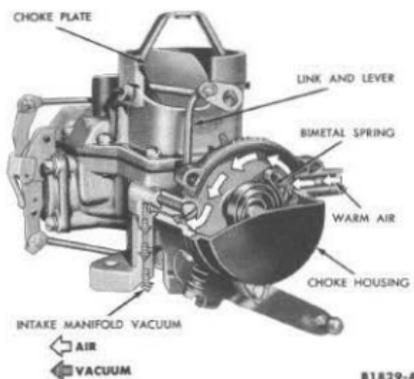

FIG. 33—Automatic Choke System
**AUTOMATIC CHOKE.** The automatic choke system (Fig. 33) provides all the proper choking action required to enrich the fuel-air mixture during the engine warm up period. This is accomplished primarily through the use of a bimetal thermostatic coil spring. The auto-